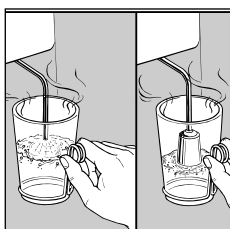

fig. 13
- 2 Place the steam nozzle in the milk ensuring that the nozzle opening is just under the surface of the milk, as shown in fig. 13 and open the steam valve by turning the steam knob anti-clockwise.